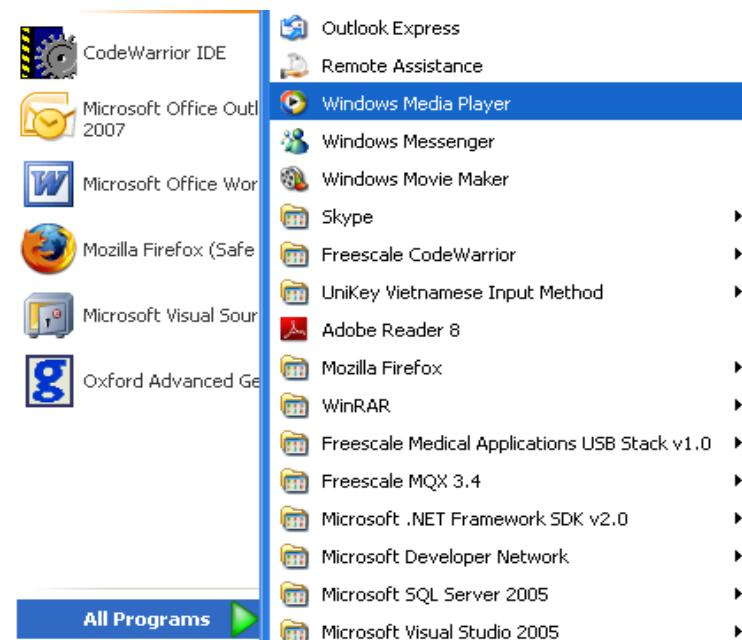

Figure L-14. Launch Windows Media Player application
3. Open the Window Media Player application as shown in Figure L-14.